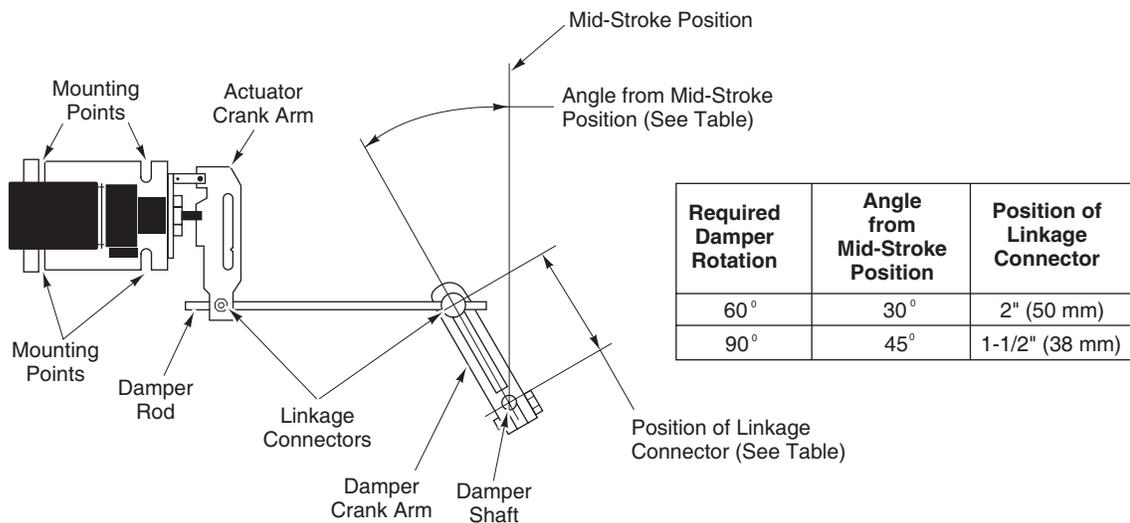

Figure-15 Actuator/Damper Mounting.
- If possible, select a mounting position such that, at mid-stroke, the actuator crank arm and the damper crank arm on the drive shaft are each at a 90° angle to the damper rod (refer to Figure-15). This is the recommended mounting position. It may be necessary to swivel the actuator linkage to arrive at this mounting location.
- Mount a ball joint connector in the slot on the damper crank arm. To achieve 90° of damper rotation, position the connector 1-1/2" (38 mm) from the centerline of the shaft hole on the crank arm. For 60° of damper rotation, position the connector 2" (50 mm) from the shaft hole centerline. Typically, 60° to 70° of rotation (maximum is 90°) is sufficient to permit almost maximum air flow through the dampers. Refer to Figure-15.
- Rotate the damper to its open position. Install and secure the damper crank arm (with ball joint connector) to the damper shaft, positioning the crank arm as follows (refer to Figure-15):